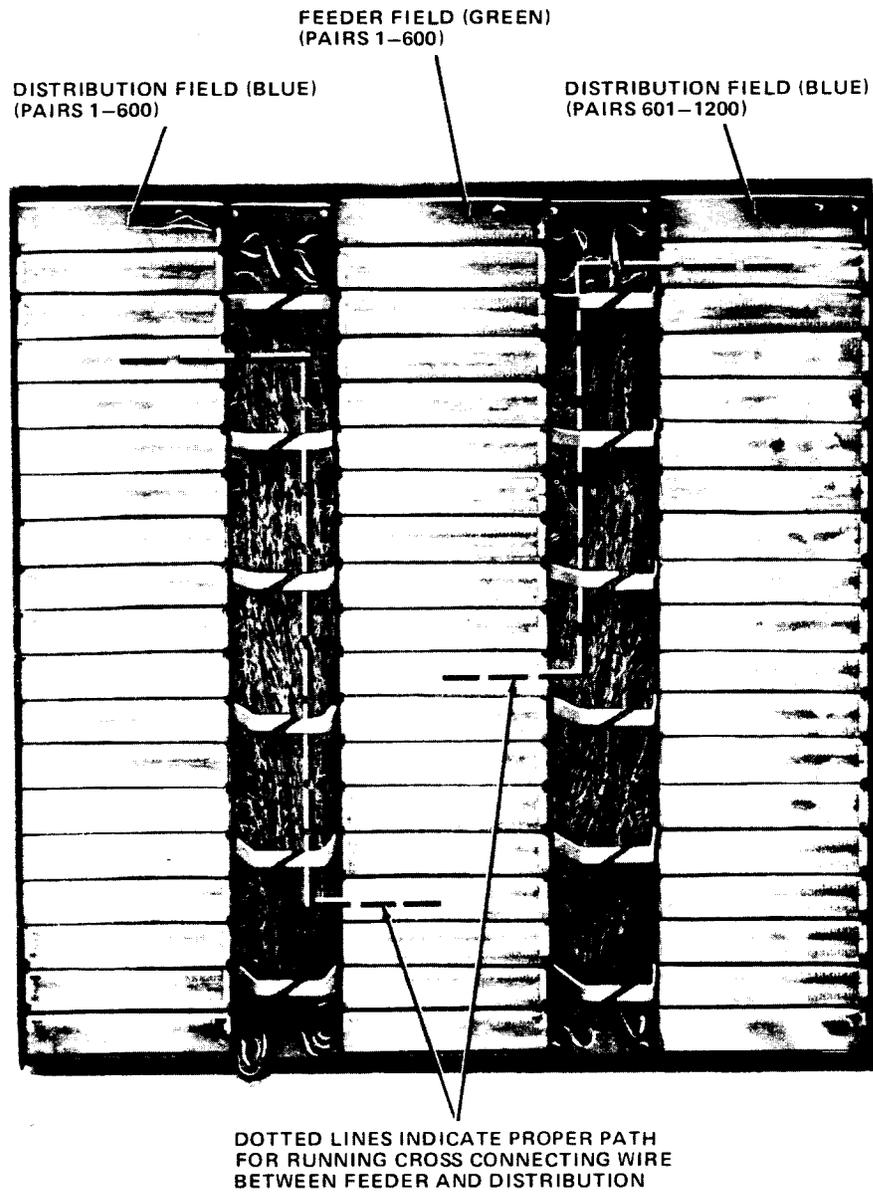
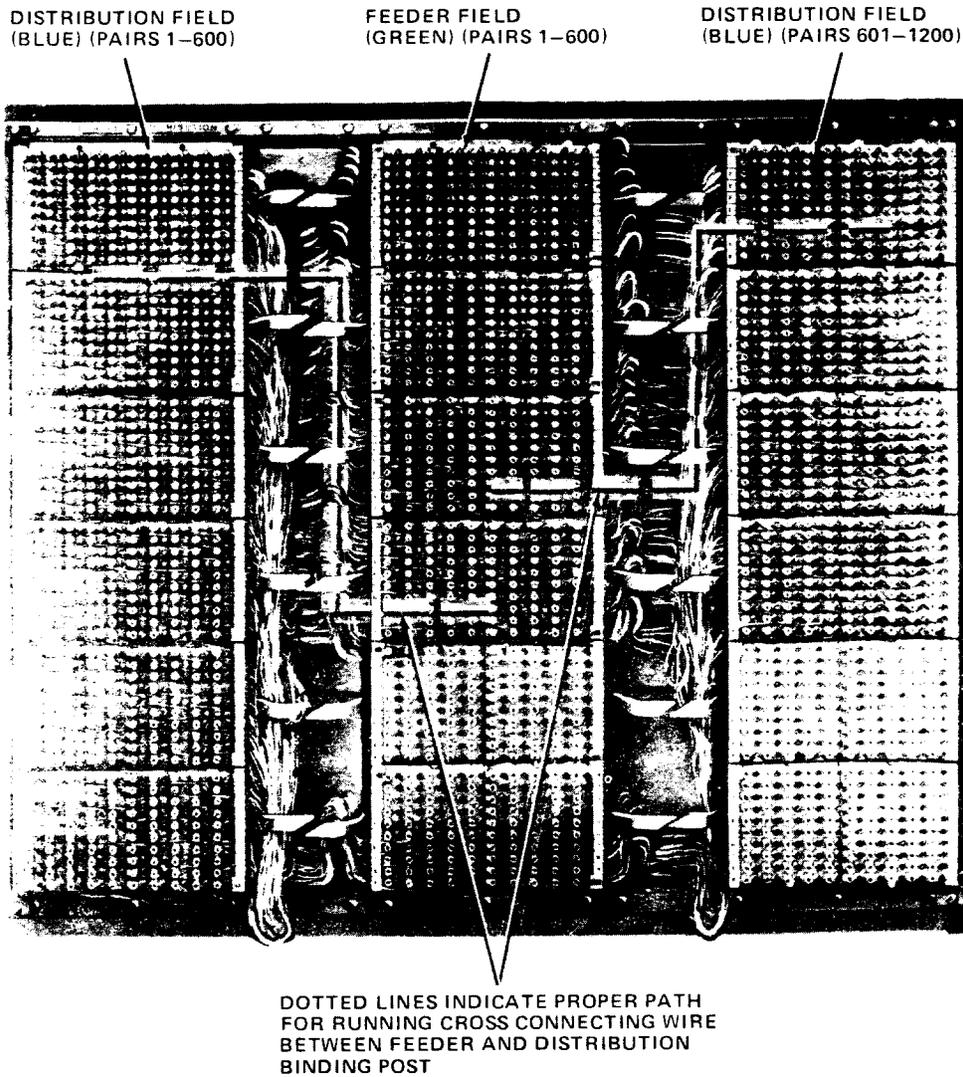

Fig. 1—Method of Pair Identification—80-Type Cabinets Equipped With Three Panels of 108-Type Connectors
Fig. 2—Method of Pair Identification—80-Type Cabinets Equipped With Three Panels of 76-Type Binding Posts
3.01 Before proceeding, the craft personnel must become familiar with the pair identification method for an 80-type cabinet. The SAI (serving area interface) or FDI (feeder distribution interface) arrangements can be equipped with either 108-type connectors (Fig.1) or 76-type binding posts (Fig. 2).
- A three panel SAI arrangement [1800 pairs, 76-type binding posts (Fig. 2) or 2700 pairs, 108-type connectors (Fig. 1).]